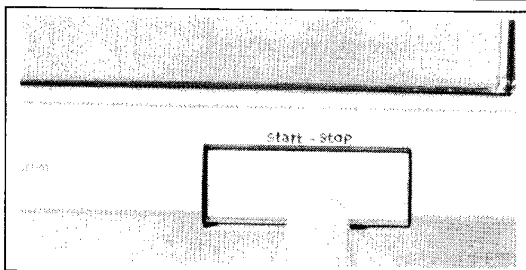

Fig. 5
3. Push the start/stop button. (See Fig. 5.) The tonearm will move automatically over the lead-in groove and descend slowly onto the record (auto-start). Play will begin.